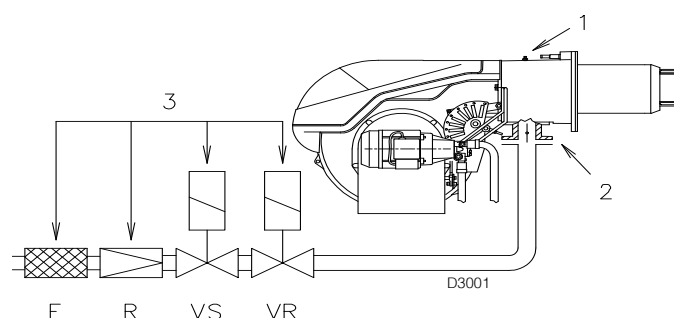

Fig. 25
Gas pressure measured at test point 1)(Fig. 25), with:
Pressure loss at gas butterfly valve 2)(Fig. 25) with maximum opening: 90°.
Pressure loss of gas train 3)(Fig. 25) with gas G20 includes:
- subtract the combustion chamber pressure from the gas pressure measured at test point 1)(Fig. 25).
- Gas pressure at test point 1)(Fig. 25) = 16 mbar
To calculate the required gas pressure at test point 1)(Fig. 25), set the maximum output required from the burner operation:
- Read off the pressure at test point 1)(Fig. 25) on the right in column 1.
pressure required at test point 1)(Fig. 25).